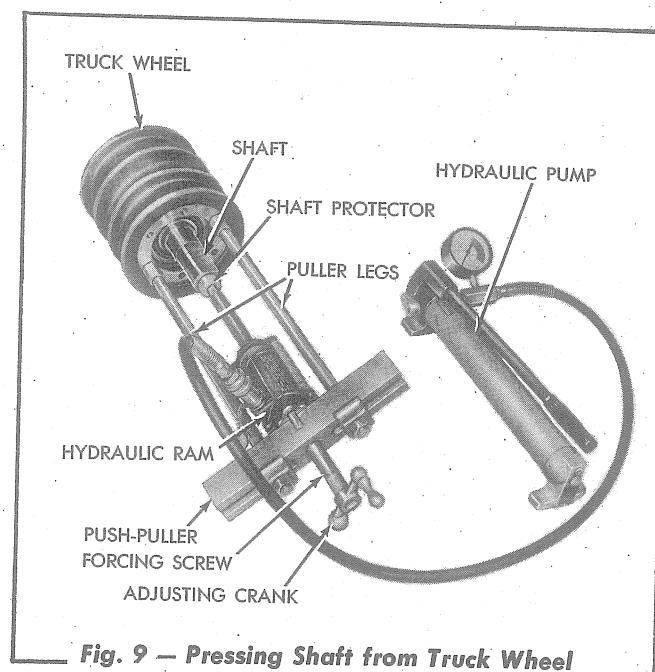

Fig. 9 — Pressing Shaft from Truck Wheel
4. Using special tools similar to the ones shown in Fig. 9, press on one end of the truck wheel shaft to remove the bearing cup from the opposite end. Press on the opposite end of the shaft and remove the other bearing cup and the shaft.
3. Remove the capscrews attaching the outer bearing retainer to the roller. Using special tools similar to the ones shown in Fig. 9, press on the inner end of the shaft to remove the outer bearing retainer and outer bearing cup. Tie the bearing adjustment shims to the bearing retainer to prevent loss.